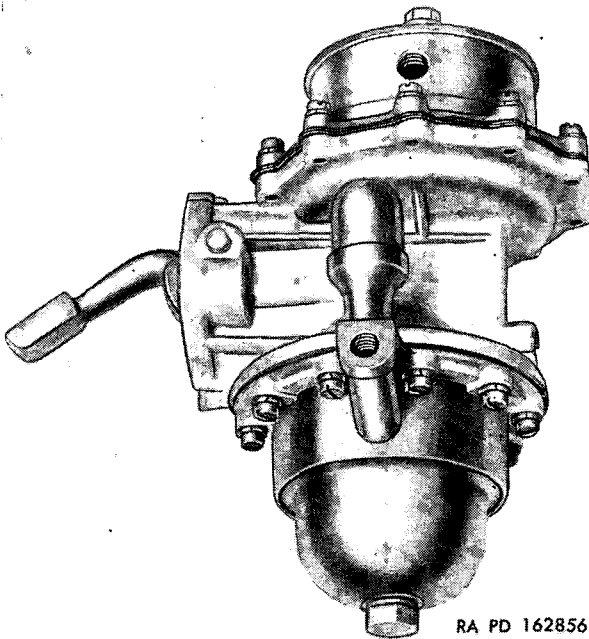

Figure 30. Fuel and vacuum pump, series AJ and AV.
- (1) Mark edges of fuel cover and body diaphragm flanges of series AJ and AV fuel and vacuum pumps (fig. 30) with a file. Mark at heat shield stud, if used. The parts may then be assembled in the same relative position. Note that the fuel diaphragm flange is symmetrical and the vacuum diaphragm flange has bulges where the screw holes occur.
- (2) Remove cover screws and lock washers. Also remove heat shield stud, if used. Separate cover from body by jarring cover loose with a light plastic hammer.